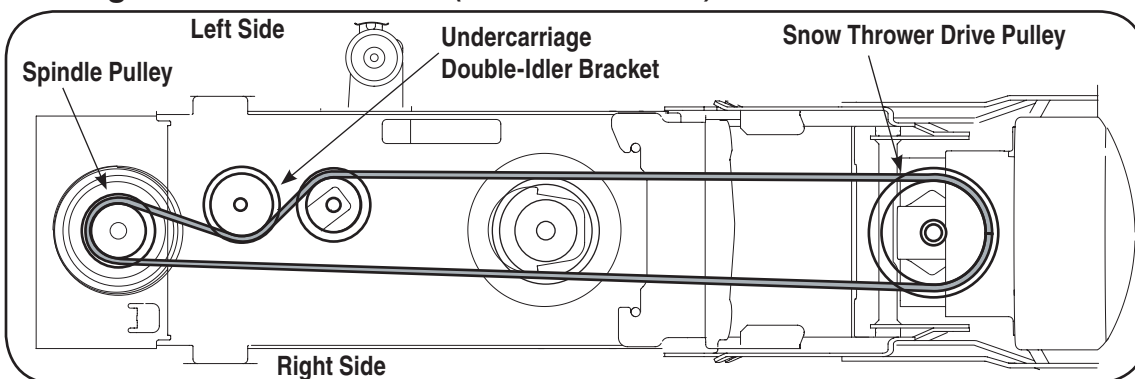

Figure 32
1. Attach and route the lower drive belt around the lower pulley on the spindle assembly, both pulleys on the double-idler bracket found beneath the undercarriage, and the drive pulley found on the rear of the snow thrower housing as illustrated in Figure 32.